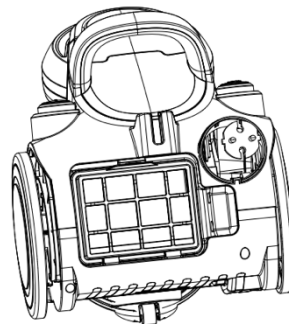

Fig.11
- 2) As in fig.11, get out the outlet filter.